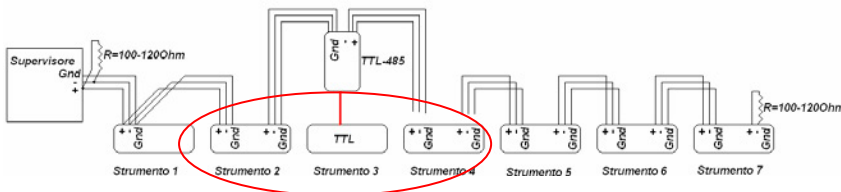

Fig.5.1 Network not working
- If the network is not working regularly and exhibits the initial problem, the problem may originate from one of the two controllers connected in the last step (or by both, although this is quite unusual). Connect group 2 to one controller only and test once more the operation of the network. The example of Figure 5.1 assumes that the network is not working correctly for Devices 1, 2 and 3, therefore the device causing the problem is no. 3. To confirm this condition, perform the cross-check illustrated in Figure 5.2.